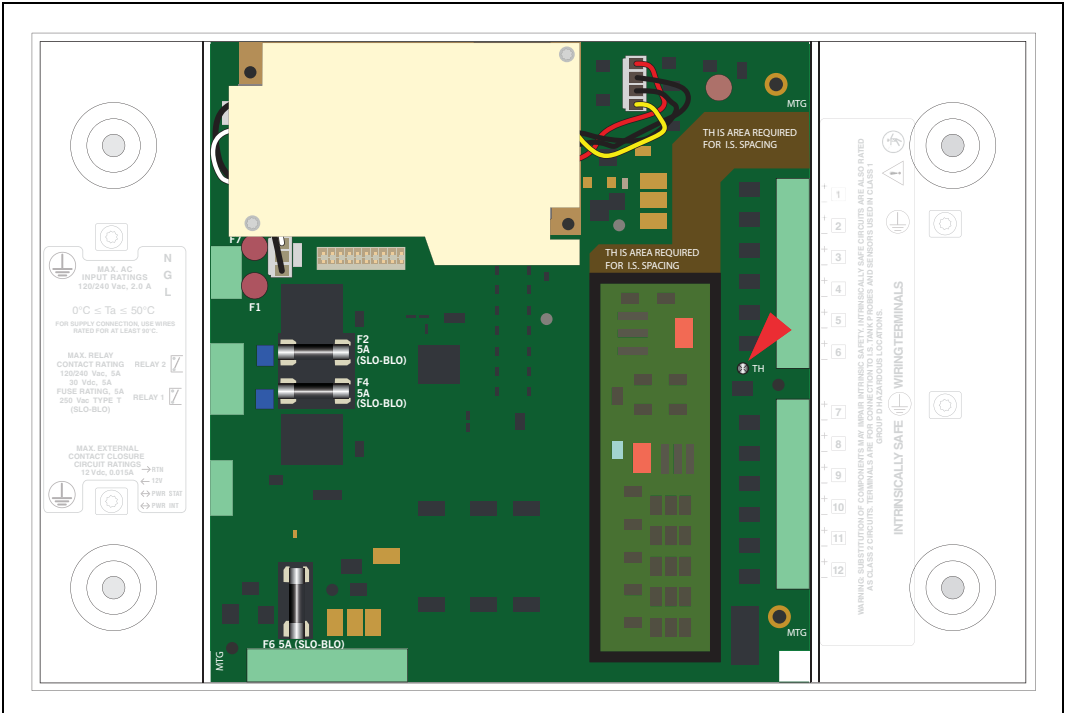

Figure 12. USIOM Board Snap-On Retaining Post
8. With your fingers under the two I.S. sockets and your thumbs positioned on top of them, lift/pry the right side of the USIOM board out enough to release the USIOM board from the snap-on retaining post between the two I.S. sockets (see Figure 12).